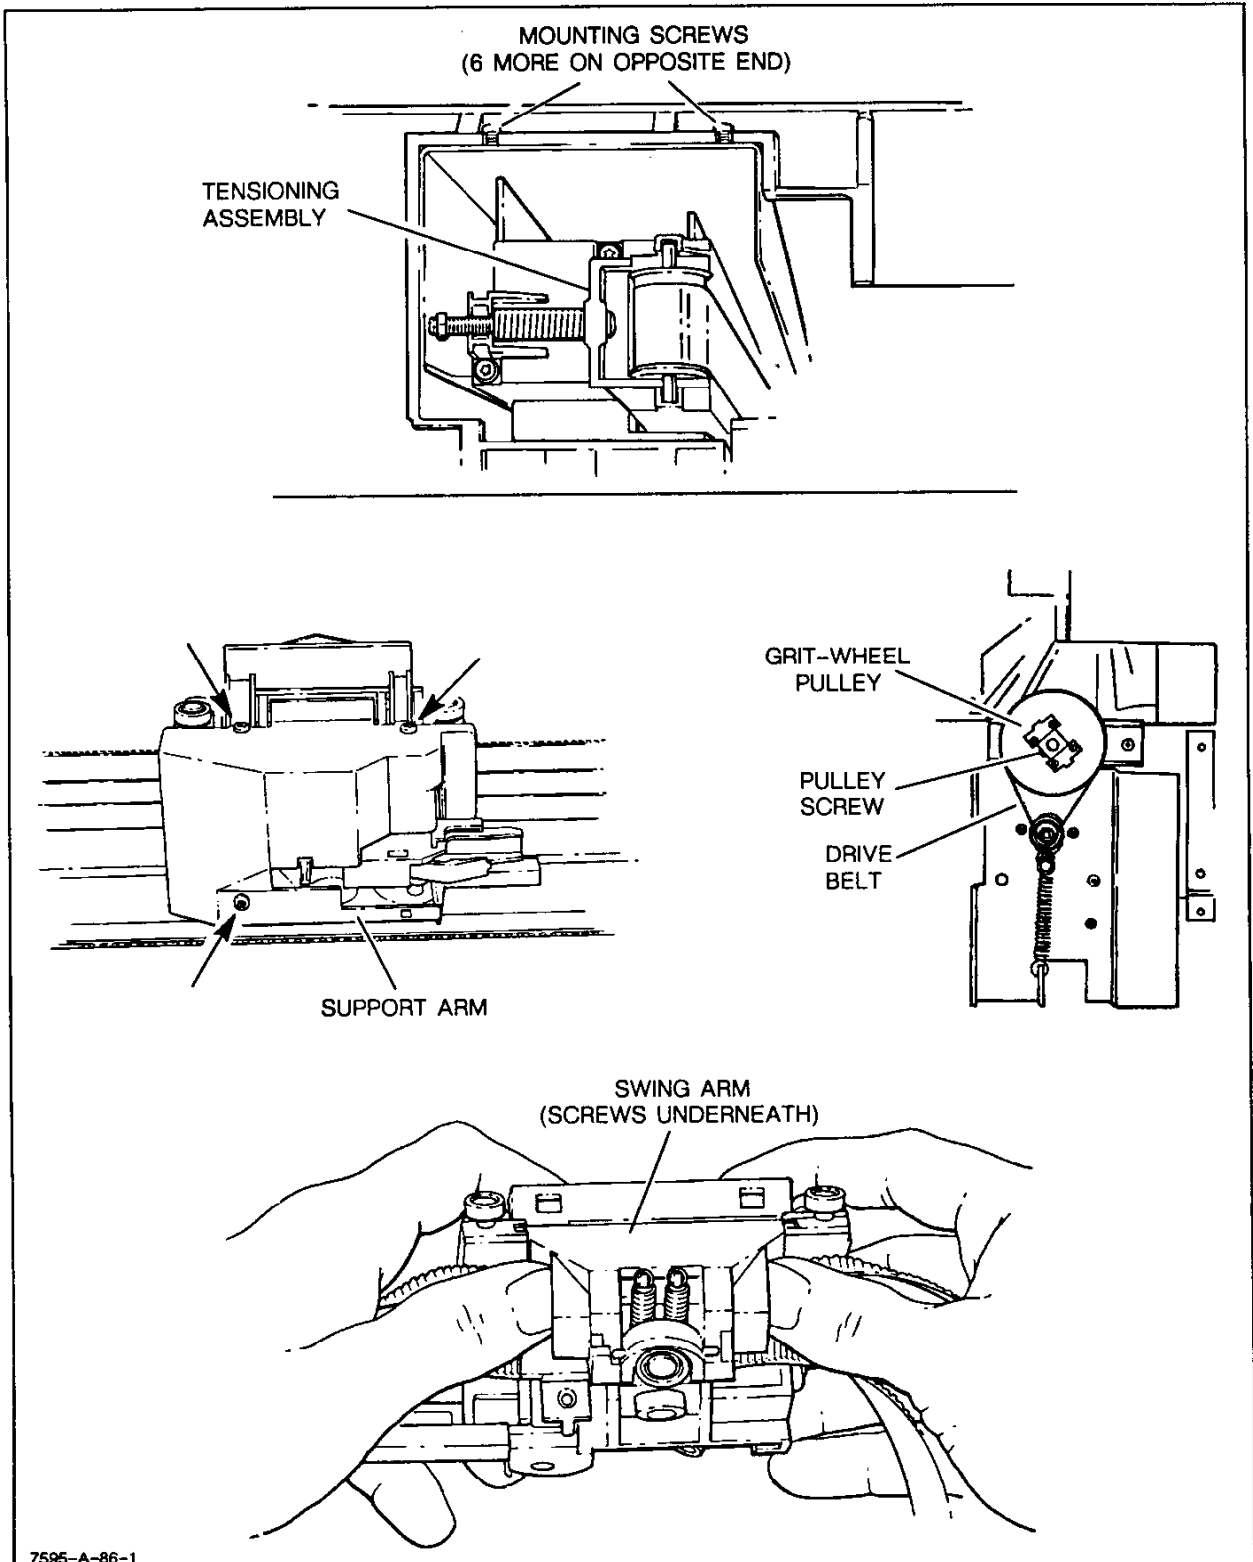

Figure 6-27. Pen Carriage Removal
- a. Turn the plotter line switch to OFF (O) and disconnect the ac power cord.
- d. Remove the eight Y-arm cover mounting screws (Torx #15) and slide the Y-arm cover out the left side of the plotter. See Figure 6-27.
- o. Place your thumbs under the swing arm and lift it off of the carriage. See Figure 6-27.